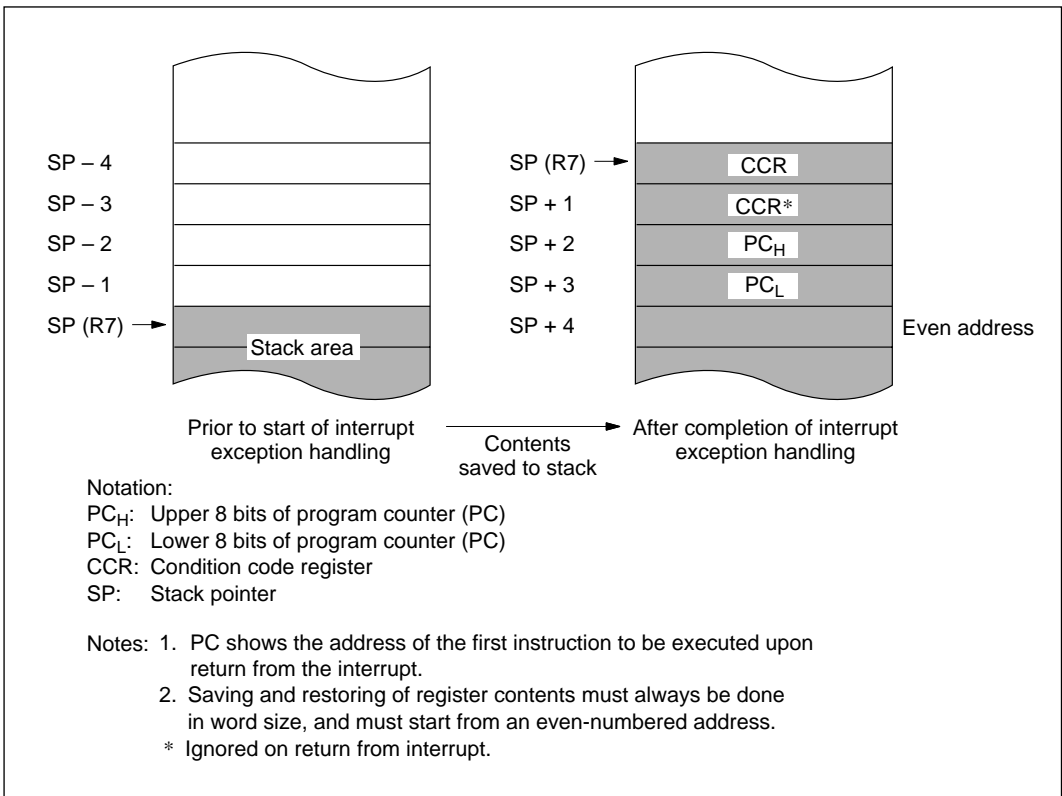

Figure 3-4 Stack State after Completion of Interrupt Exception Handling
5. If an interrupt request is accepted, then after the presently executing instruction is completed, PC and CCR contents are saved to the stack. The stack state in this case is as shown in figure 3-4. The PC value saved in the stack shows the address of the first instruction to be executed upon return from the interrupt.